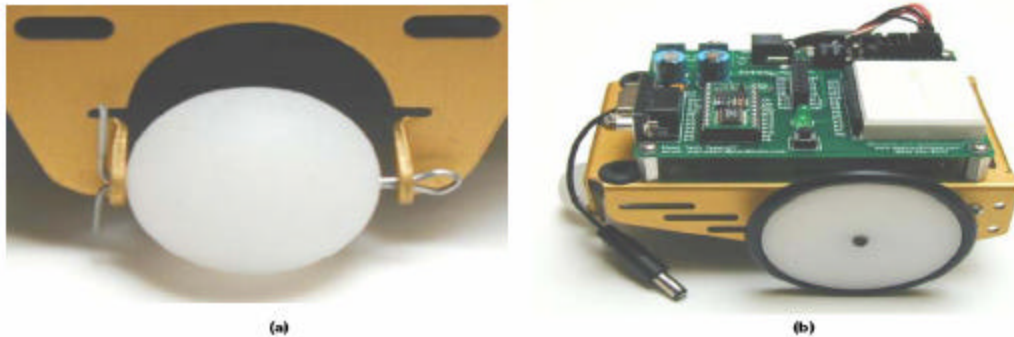

Figure 12: (a), Tail wheel mounted on Boe-Bot chassis, and (b), front wheel mounted on servo output shaft.
Figure 12 (a) shows the tail wheel attached to the Boe-Bot chassis with a cotter pin, and Figure 1.2 (b) shows one of the front wheels attached to a servo's output shaft.
1. The plastic ball is used as the Boe-Bot's rear or tail wheel, and the cotter pin is its axle. Run the cotter pin through the holes in the tail of the Boe-Bot chassis so that it holds the one-inch plastic ball in place as shown in Figure 12 (a).